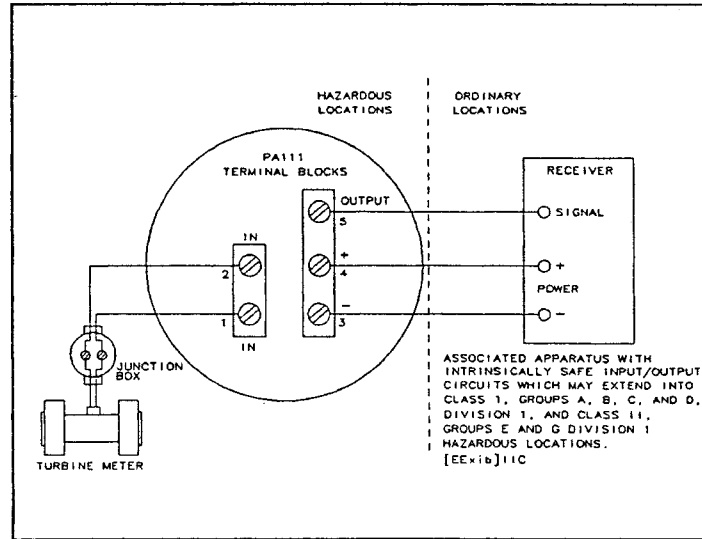

Figure 5. Wiring, remote mounting.
A remote mounted amplifier which is within three feet of the turbine meter may be wired directly to the turbine meter using the wires provided with the meter. A remote mounted amplifier which is greater than three feet from the meter is connected using 18 AWG shielded cable. The maximum length of cable between the turbine flowmeter and the PA111 is 200 feet. This type of installation will also require a junction box, item 11. See Figure 5.